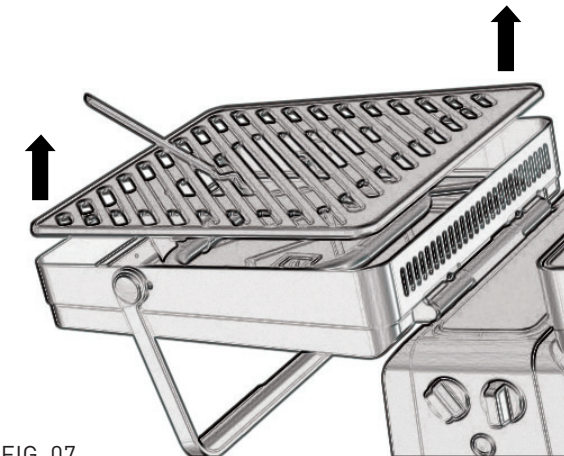

FIG. 07
- 2. Stabilize tool and lift slightly. (Fig. 07)